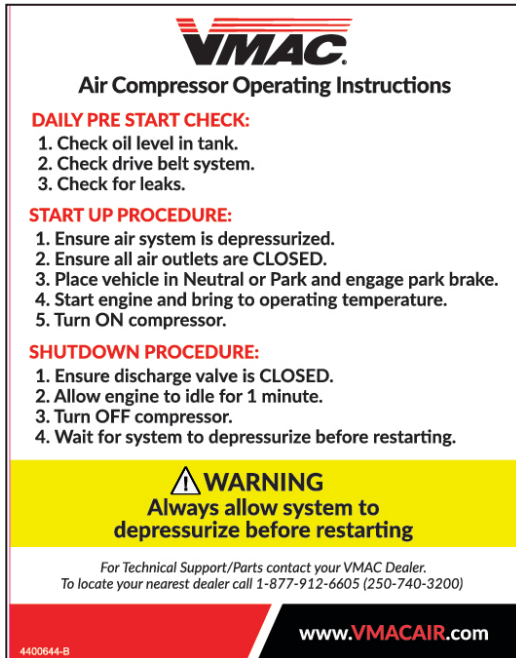

Figure 51 — Operating Instruction decal
- As part of the installation process, ensure that the safety and operational instruction decal is affixed in an obvious location so that it can be seen by vehicle operators. A good spot for this is usually on the inside of the door or on the panel underneath the steering wheel (Figure 51).